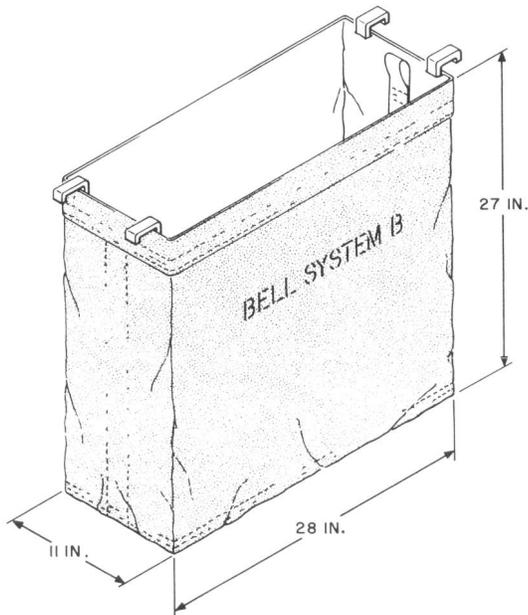

Fig. 2—B Platform Foot Bag
**2.05** The B Platform Foot Bag is used with the open type aerial platform to provide protection for the legs of the workman and a place to store discarded material. This bag is made of canvas duck with a steel frame and is designed to fit in the center opening of the platform. The marking is BELL SYSTEM B as illustrated in Fig. 2.